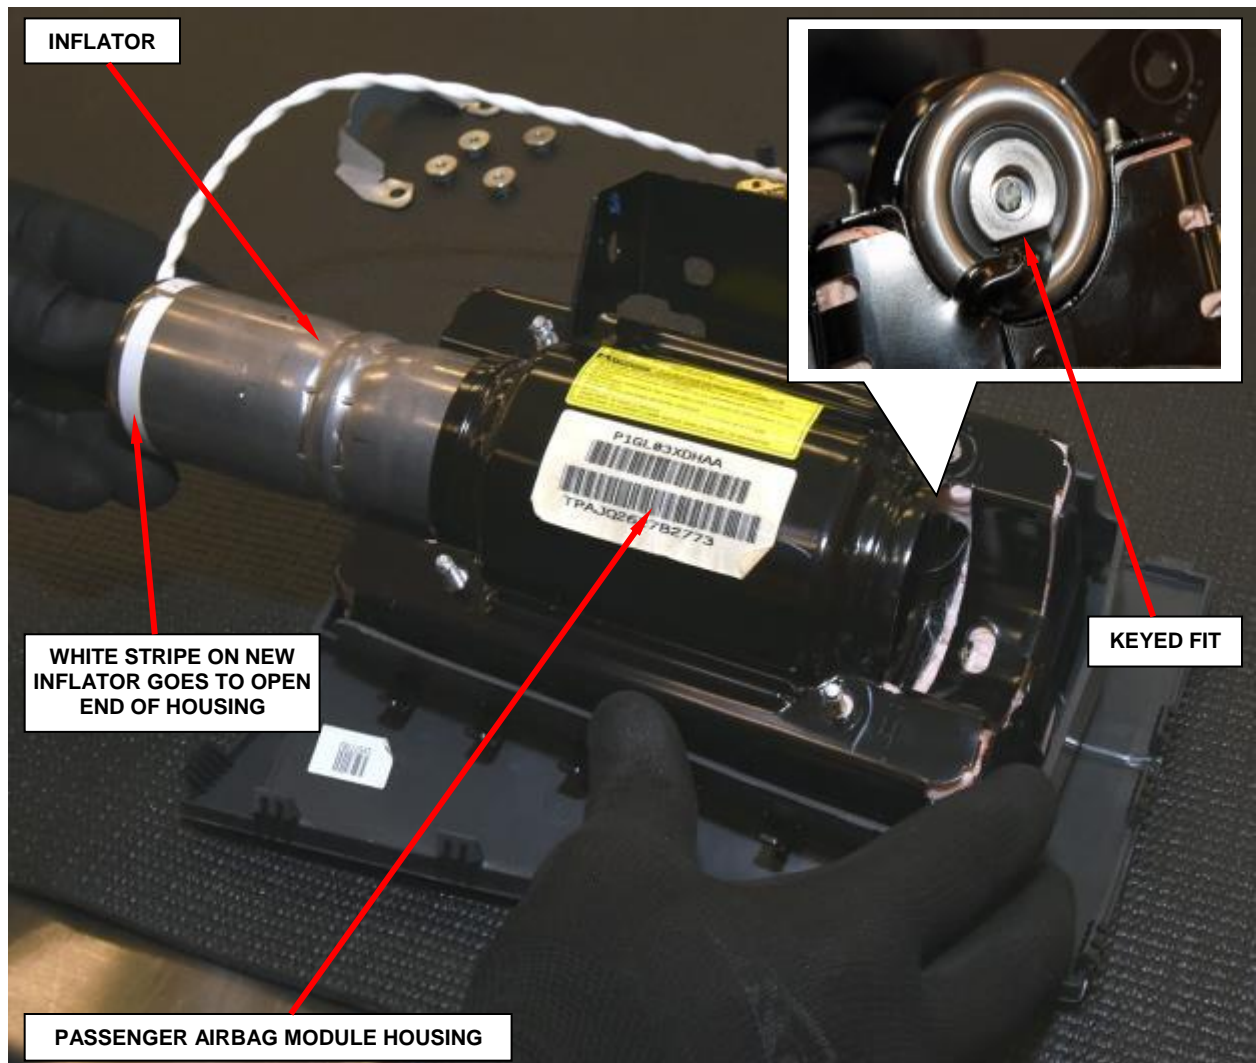

Figure 14 - Passenger Inflator Installation
NOTE: The inflator's key **MUST** line up with the housing's key (Figure 14).
- n. Slide the **NEW** inflator into the passenger airbag module housing. The keyed end is inserted first; therefore, the white stripe on the **NEW** inflator will be located at the open end (Figure 14).
NOTE: The inflator is keyed to fit into the housing (Figure 14).